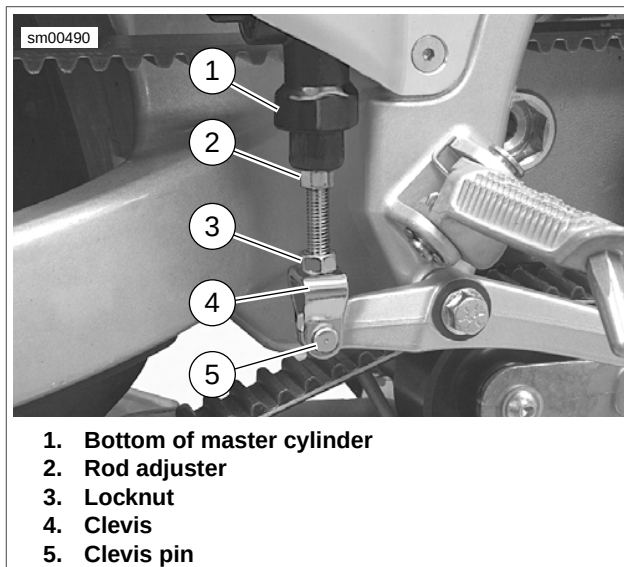

Figure 1-14. Brake Pedal Pushrod Adjustment (Typical)
- See Figure 1-14. Inspect for minimum and maximum brake rod engagement in brake clevis (4). Adjust as required.
- Loosen locknut (3) while holding rod adjuster (2). Move locknut away from top surface of clevis (4).
- Return locknut (3) to fit flush against top surface of clevis and tighten to 130-173.5 in-lbs (14.7-19.6 Nm).